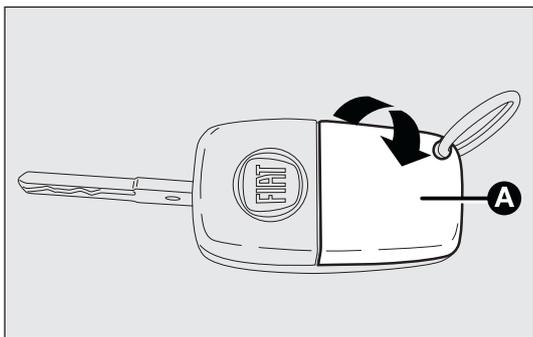

fig. 8
- open the snap-fitted lid A-fig. 8 as shown by the arrow;